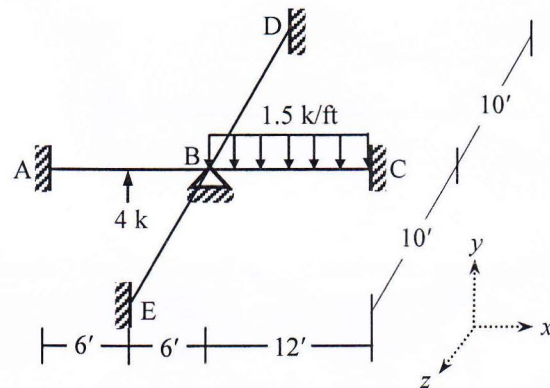

Fig. 2
2. Use Stiffness Method (neglecting axial deformations) to calculate the bending moment at joint d and f of member df of the frame loaded as shown in Fig. 2 [Given: $w = 30$ kN/m, $EI = \text{constant} = 29,000$ kN-m²].
- For the grid $ABCDE$ loaded as shown in **Fig.2**, use the stiffness method to calculate the vertical deflection and rotations [Given: $EI = 40 \times 10^3 \text{ k-ft}^2$, $GJ = 30 \times 10^3 \text{ k-ft}^2$].